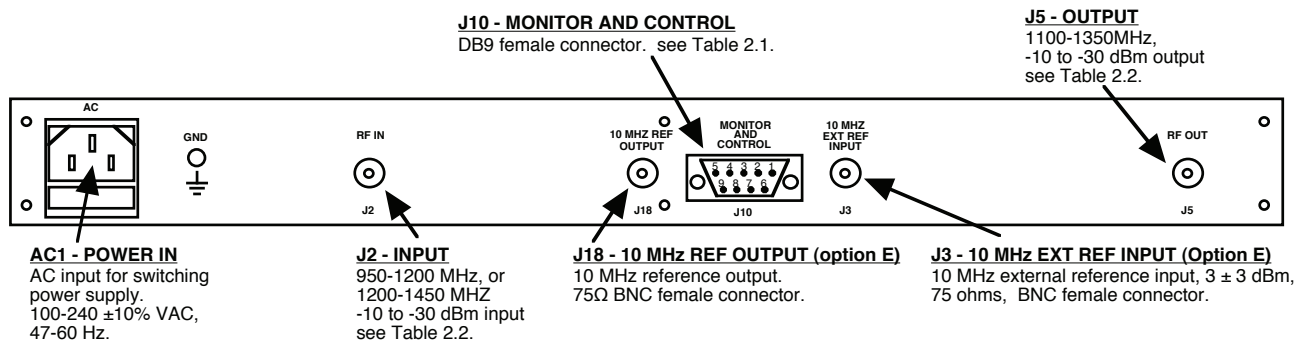

FIGURE 2.1 2083-1413 Rear Panel I/O's
Figure 2.1 shows the input and output connectors on the rear panel.
1. Connect a -10 dBm to -30 dBm signal to IN, J4 (Figure 2.1)